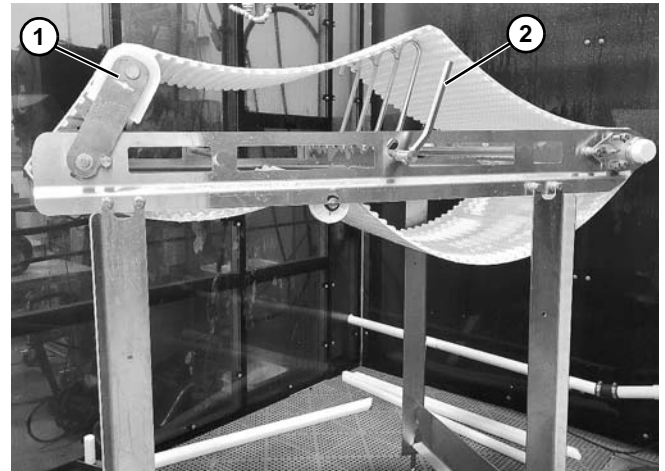

Figure 11
4. Tip up tail (**Figure 11, item 1**) to gain access to inside of conveyor.
5. Engage belt lifters (**Figure 11, item 2**), if equipped.